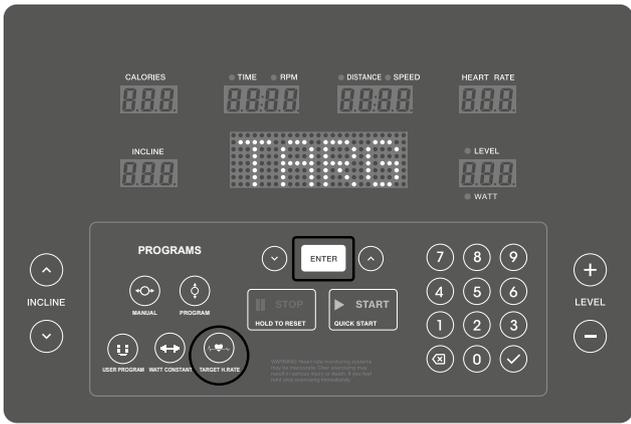

FIGURE 16
1. Select TARGET H. RATE (Figure 16).